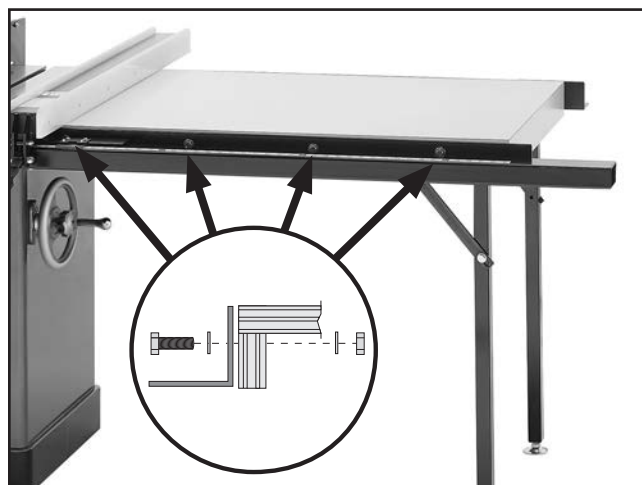

Figure 28. Extension table installed.
- With help of another person to hold extension table, use (8) $\frac{3}{8}$ "-16 x $1\frac{3}{4}$ " hex bolts, (16) $\frac{3}{8}$ " flat washers, and (8) $\frac{3}{8}$ "-16 hex nuts to secure extension table to rails, as shown in **Figure 28**.